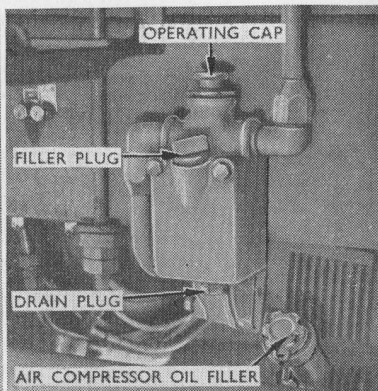

Fig. 38. Anti-freezer.
(F) ANTI-FREEZER. (*Fig. 38.*)